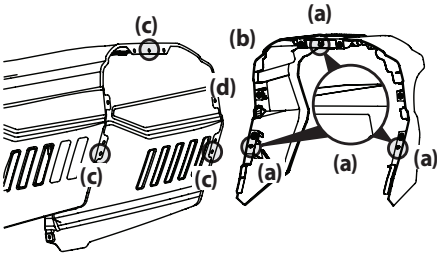

Figure 5
There are three (3) alignment posts (a) on the hood collar (b) that line up with corresponding alignment holes (c) in the hood (d). See Figure 5.